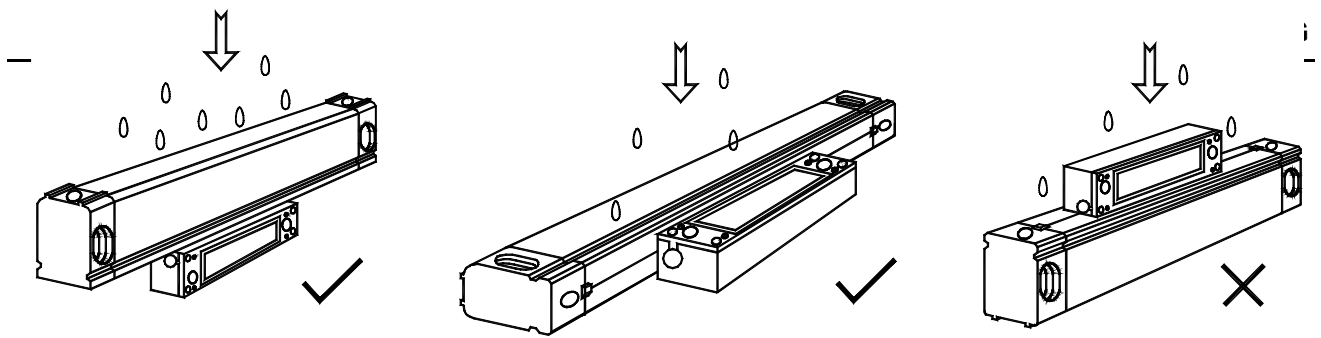

Fig. 14
- e. The scale shall be installed vertically or horizontally as shown in Fig. 14. Never install upside down (with the reading head over the scale assembly). The sealing rubber of the scale assembly must be kept away from the cooling oil nozzle of the machine.